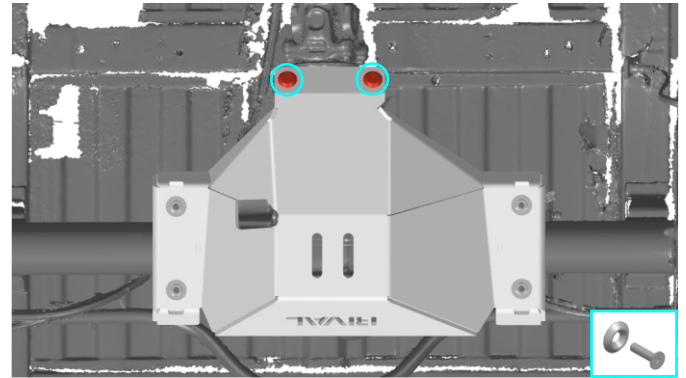

Fig. 4
4. Secure the skid plate on remaining mounting points using countersunk bolts M8x30 and countersunk washers M8 (items A, D) as shown in fig.4.